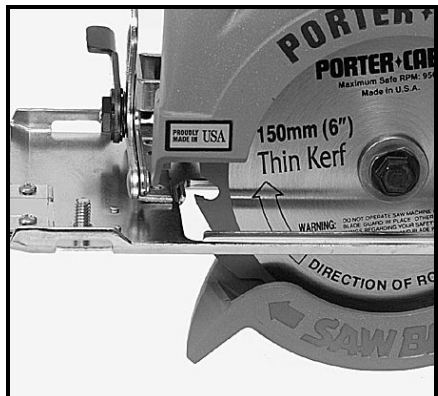

Fig. 2
3. Clean inner blade flange and retract telescoping guard and place sharp blade on arbor making sure teeth point up at front of saw as shown in Fig. 2.